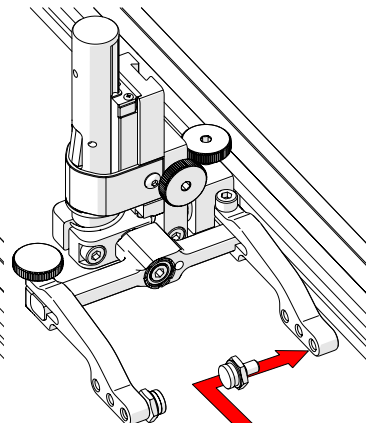

Fig. 64 - Place buttons
3. Position the pivot buttons where necessary. When a narrow scanning footprint is required, use the pivot button holes closest to the yoke (Fig. 64).